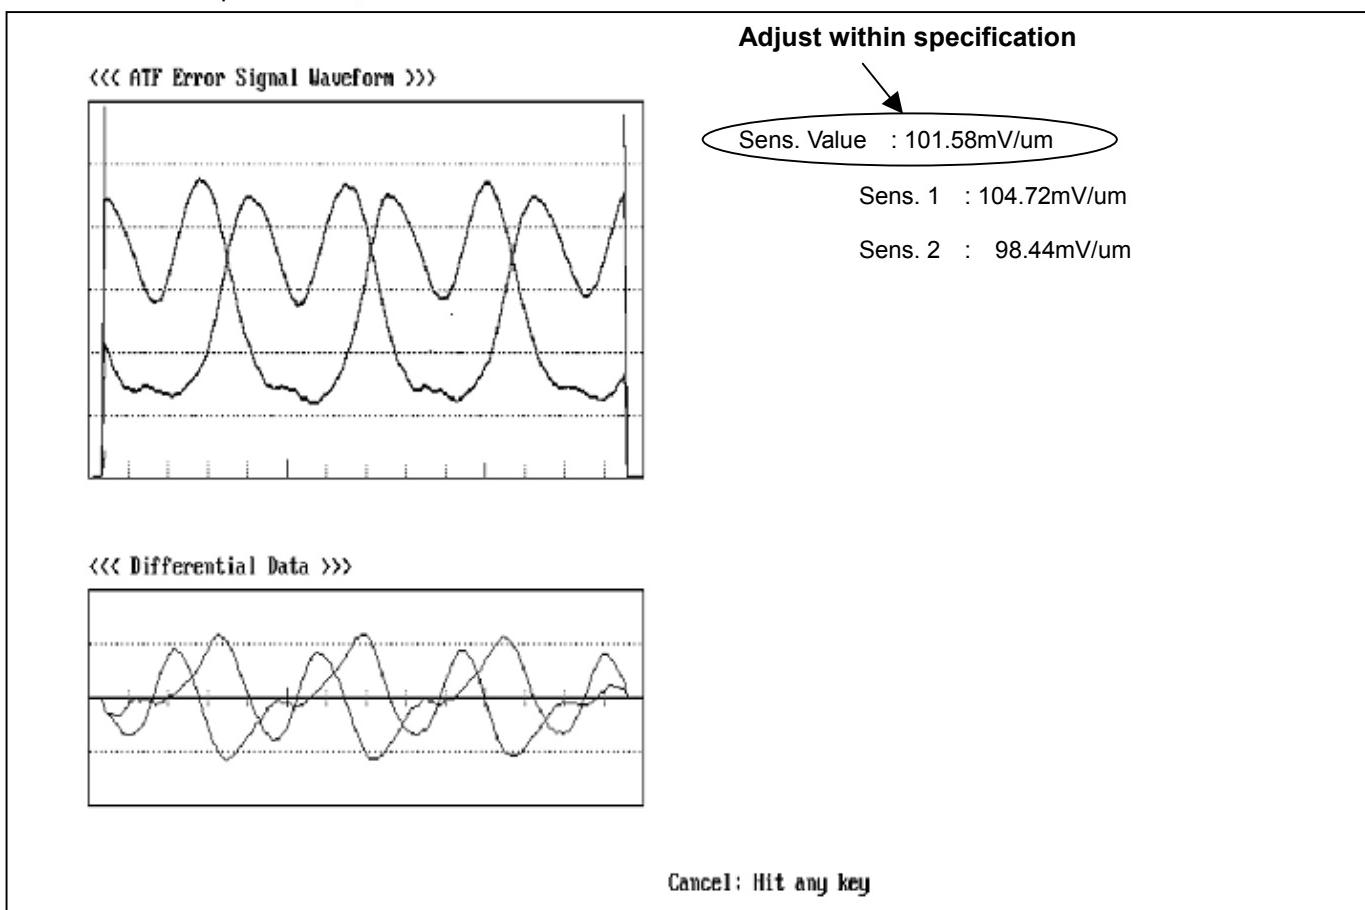

Figure 3-37-1
3. Select the LISTA Main Menu "(6) ATF Error Signal Monitor" so that the screen of <ATF Error Signal monitor> appears. Then press Enter to start the software.
4. When the picture is appeared as shown in figure 3-37-1, adjust ATF Gain (A16: PBL GAIN 50) so that the "Sens. Value:" is in the Specification.
6. Select the Lista Main Menu "(1) Sensitivity Measurement" so that the screen of <ATF Error Signal monitor> appears.